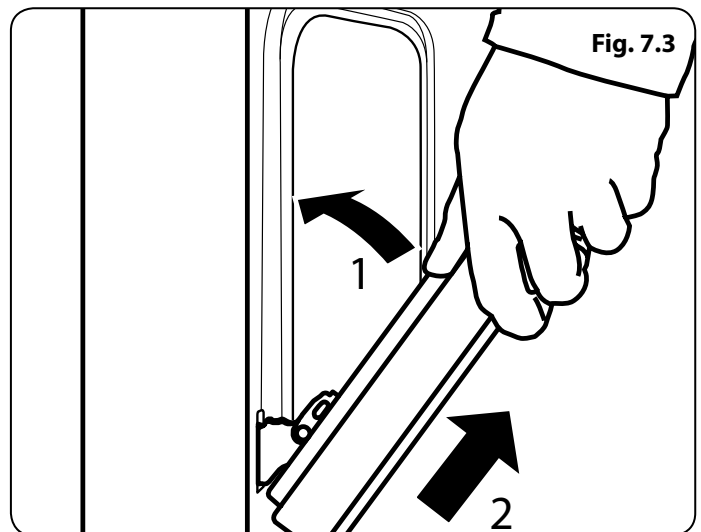

Fig. 7.3
3. Grip the sides of the door and withdraw by going forwards and upwards (**Fig. 7.3**).